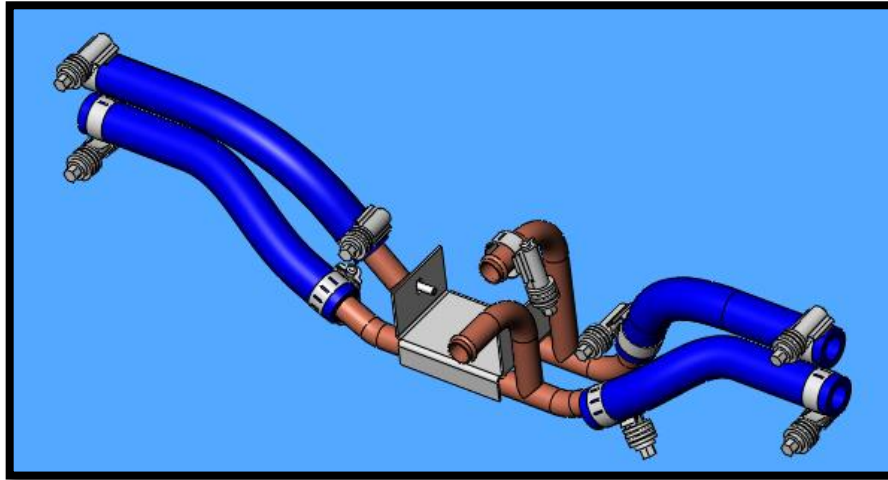

**FIG. 8-2**
14. **Caution: Engine coolant may be HOT.** Remove all hose clamps on heater line manifold located in ceiling above officer seat and properly dispose of. Place shop rags below this area to catch any residual coolant still in heater lines and manifold that may leak out. Refer to FIG. 8-2.